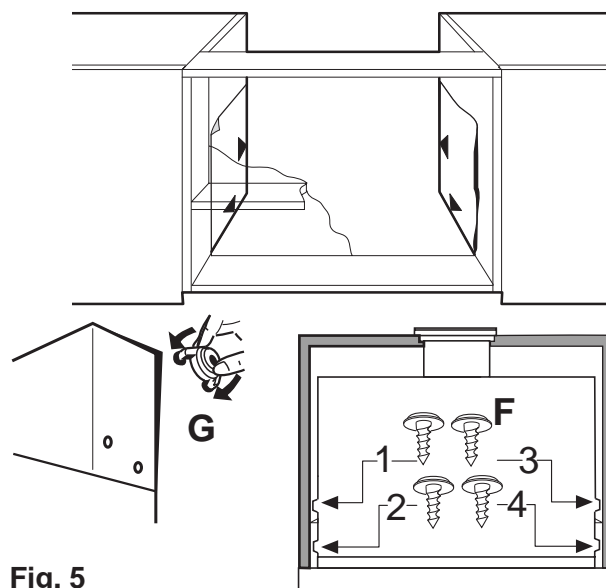

Fig. 5
- Fit the drilling template which comes with the hood on the inner right side of the cabinet making sure printed arrow coincides with back part (Fig. 5).
- Make holes as indicated on template (Fig. 5).
- Use screws **F** (4.5x16) to fasten the hood to the cabinet (Fig. 5).